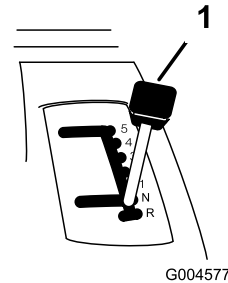

Figure 12
3. Shift the ground speed lever into Neutral (Figure 12).